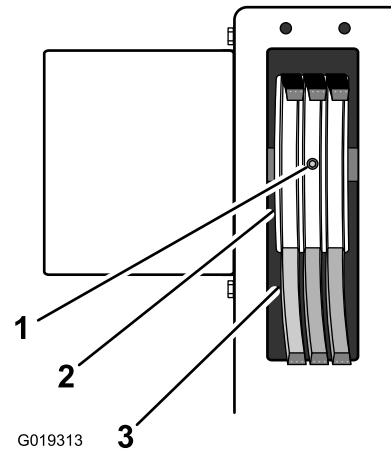

Figure 54
- A. Pull the recoil start handle of the engine until the setscrew hole in the center V-belt groove of the pulley is accessible (Figure 54).
- B. Loosen the set screw (Figure 54).
- D. Tighten the setscrew (Figure 54).